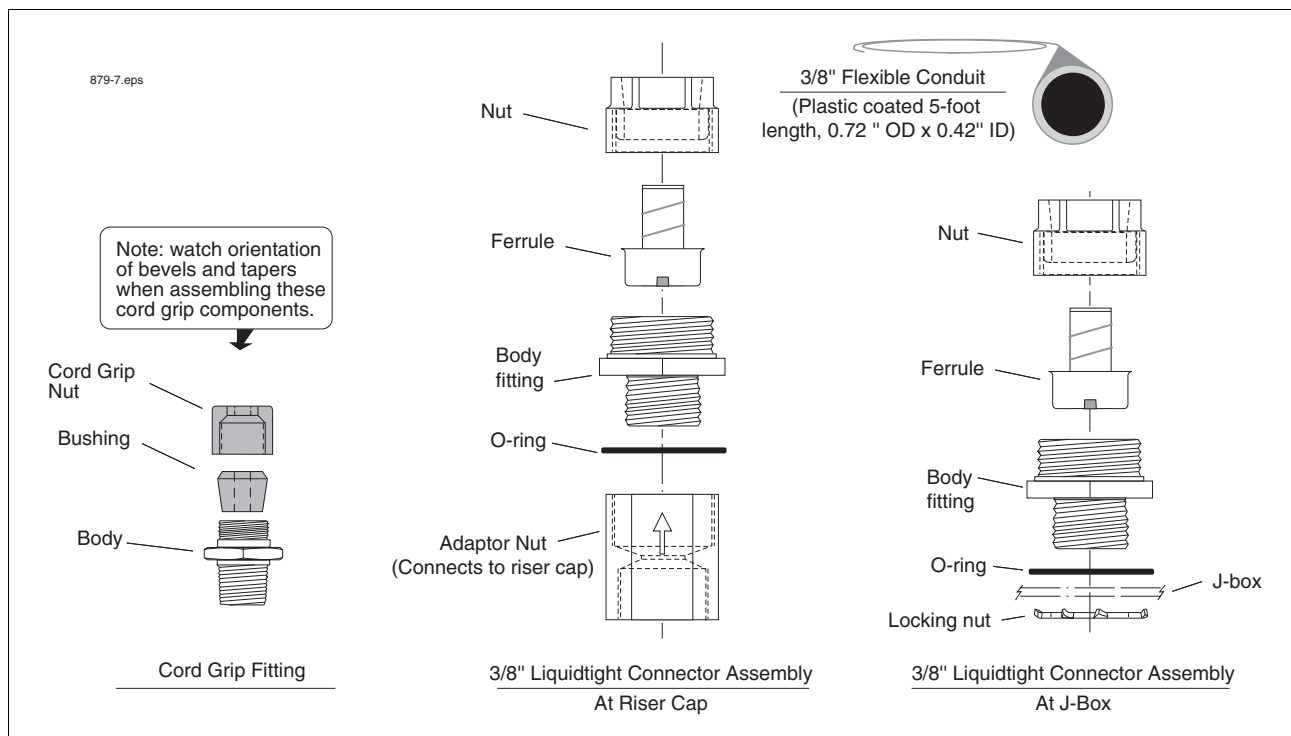
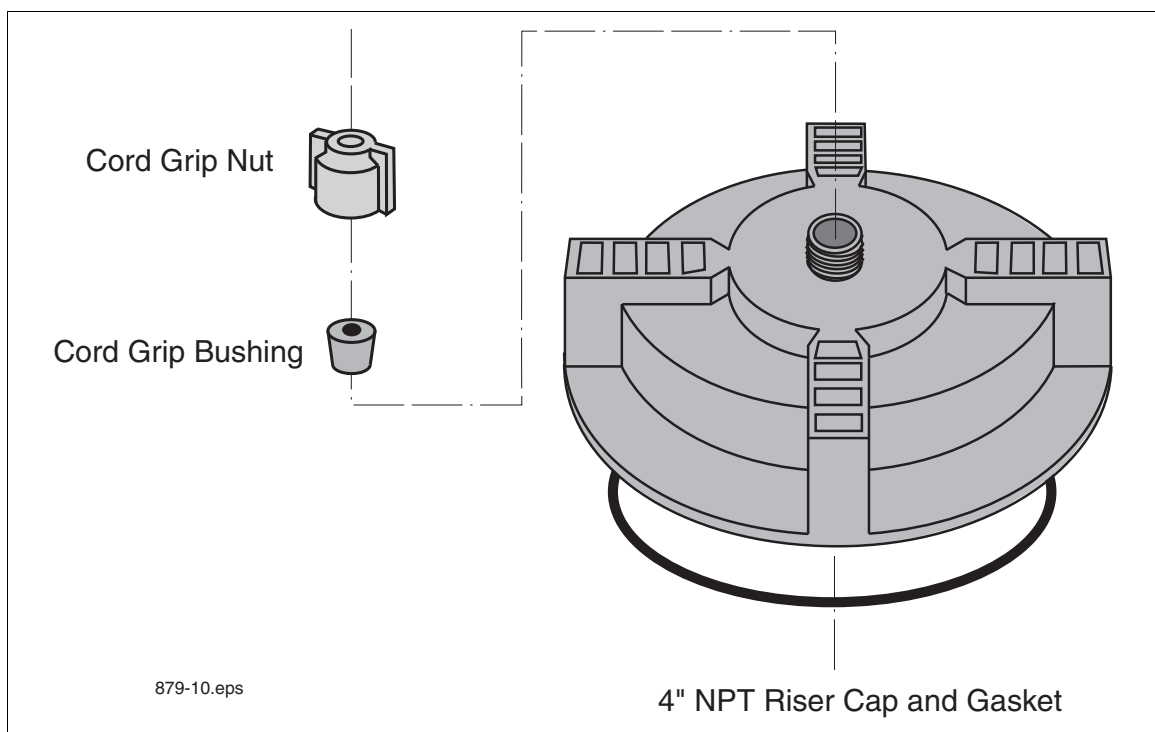
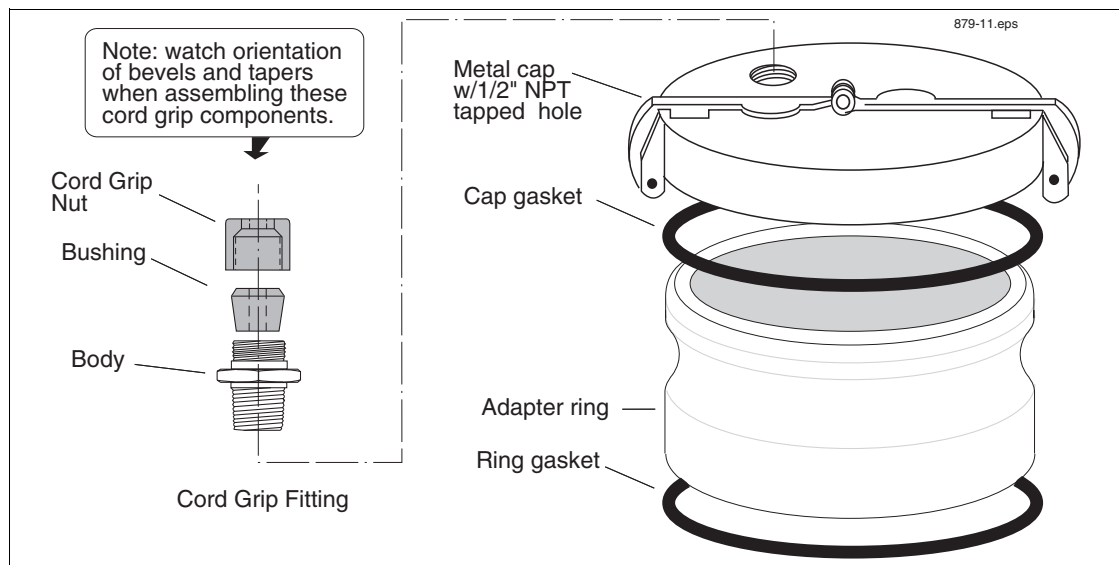

Figure 6. Mag Probe AST Installation Kit
Figure 9. Cap and Cord Grip Kit
Figure 10. Metal Cap and Ring Kit
This kit is recommended when installing Mag Probes into an above ground storage tank (AST). This kit contains a length of flexible conduit, connectors, etc., for easier probe access. The kit contents are listed in Table 4 and shown in Figure 6.
This Riser Cap kit (Table 7) contains a non-metallic cap which screws onto the 4" NPT riser (Figure 9). The cap comes drilled and tapped with a cord grip.
This riser cap kit contains an adapter ring which screws onto the 4"NPT riser and a quick-release metal cap which clamps onto the ring (Table 8). The cap comes drilled and tapped with a cord grip (Figure 10).
1. If you are using the one piece cap (see Figure 9 on page 19), push the end of the probe cable through the cord grip bushing and nut on the cap, leaving a minimal amount of slack between the probe and cap. Screw the cap onto the riser by hand until the gasket first contacts the pipe. Then lightly tap the cap with a hammer to tighten it an additional 3/4 turn. Go to Step 3.
2. If you are installing the metal cap and adapter ring (see Figure 10 on page 20), screw the ring onto the 4" riser until the gasket contacts the pipe, then use a pipe wrench to tighten it an additional 3/4 turn. Push the cable through the metal cap and cord grip, then clamp the cap onto the ring.
1. If you are using the one piece cap (see Figure 9 on page 19), push the end of the probe cable through the cap and cord grip bushing, leaving a minimal amount of slack between the probe and cap. Discard the cord grip nut and attach the Adaptor Nut from the AST kit to the cap (see Figure 6 on page 16). Tighten the Adaptor Nut until the cable is held firmly. Go to Step 3.
2. If you are installing the metal cap and ring (see Figure 10 on page 20), screw the ring onto the 4" riser until the gasket contacts the pipe, then use a pipe wrench to tighten it an additional 3/4 turn. Using UL-classified pipe sealant (suitable for the fuels involved), screw the cord grip fitting into the tapped hole and tighten. Place the cord grip bushing in the fitting. Discard the cord grip nut and loosely screw the Adaptor Nut from the AST kit onto the cord grip fitting (see Figure 6 on page 16). Push the cable through the metal cap, bushing, and Adaptor nut, then clamp the cap onto the ring. Make sure there is a minimal amount of slack between the probe and cap, then tighten the Adaptor Nut until the cable is held firmly.
3. Next assemble the liquidtight connectors on both ends of the flexible conduit as shown in Figure 6. Push the cable through the flexible conduit assembly and into the J-box. Connect the flexible conduit assembly to the Adaptor Nut on one end and the J-box on the other.